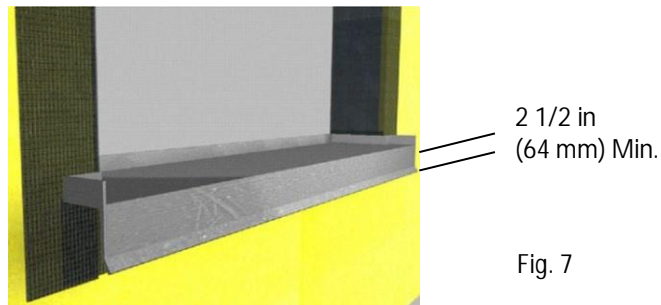

Fig. 7
- a. Install a watertight pan flashing at all sill locations - Figure 7.
- c. The flashing shall extend a minimum of 2 1/2 in (64 mm) down over the face of the Outsulation RMD System - Figure 7.